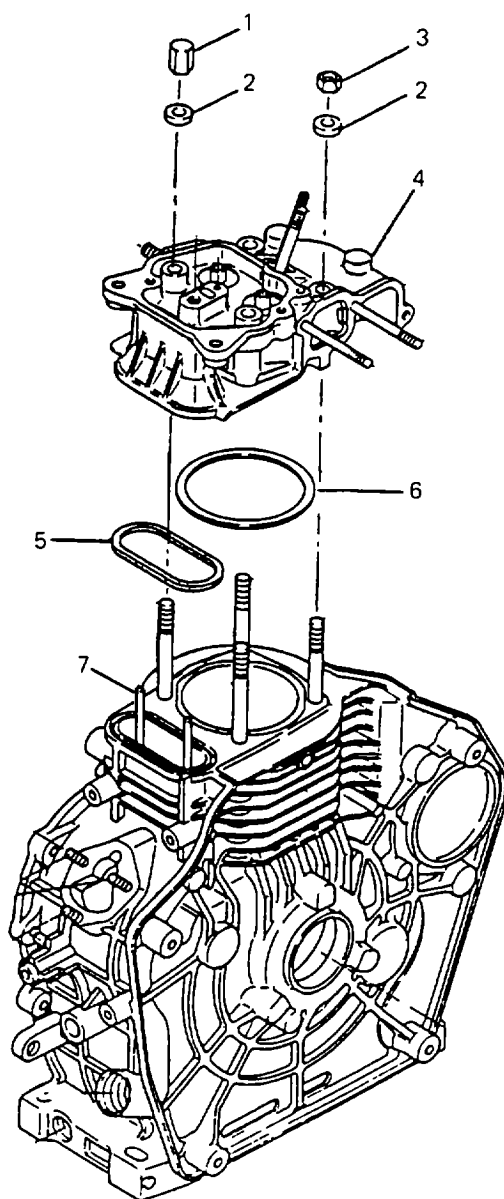
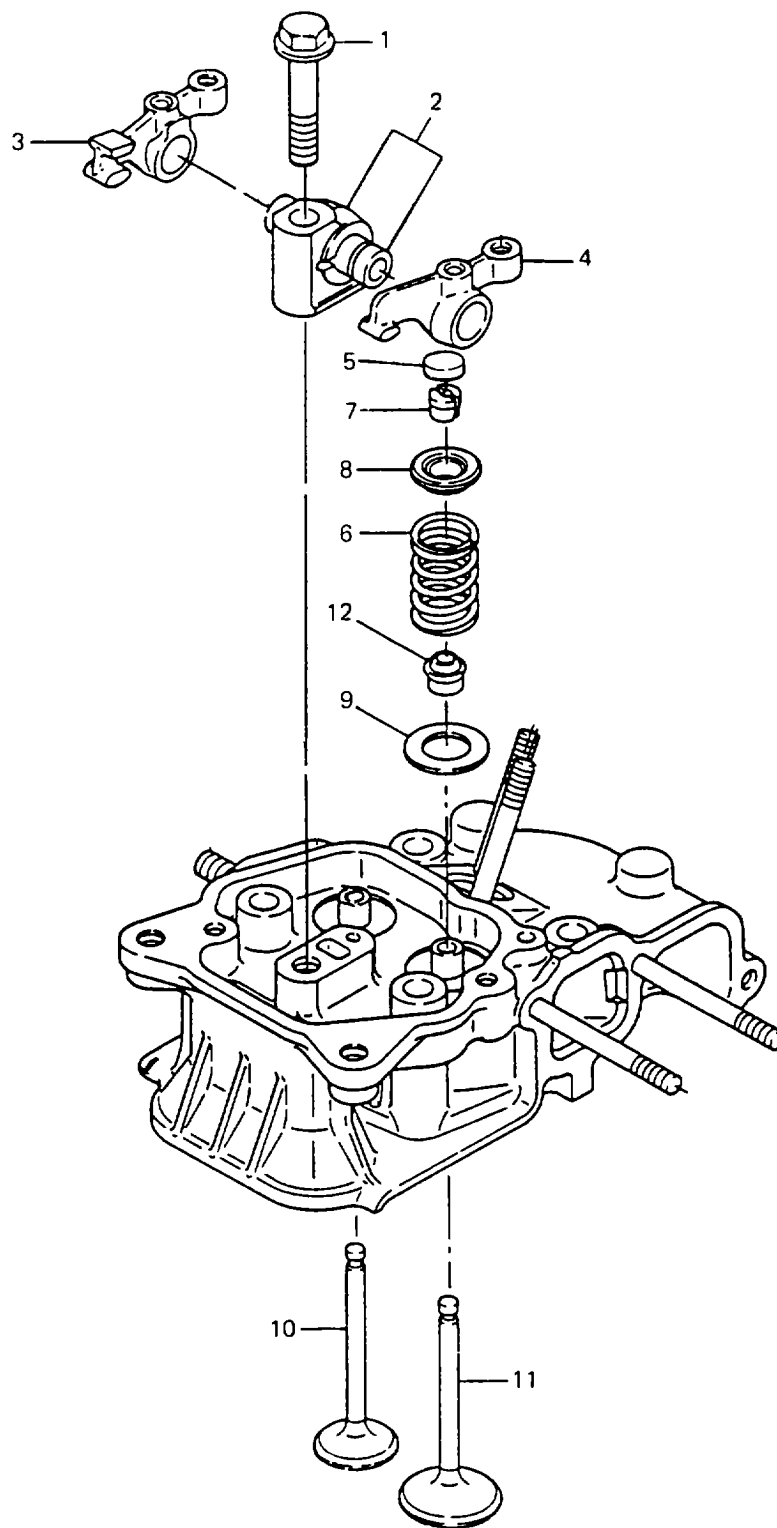

Figure 6-1. Removing Cylinder Head
Figure 6-2. Cylinder Head Assembly
- a. Refer to Figure 6-1. Remove two cap nuts (1) and washers (2) from cylinder head studs.
- b. Remove two cylinder head nuts (3) and cylinder head washers (2) from cylinder head studs.
- c. Remove cylinder head assembly (4) by lifting straight up off the four cylinder head studs
- d. Remove and discard push rod O-ring (5) and cylinder head gasket (6)
- e. Remove push rods (7).
- f. Refer to Figure 6-2. Remove rocker arm support bolt (1).
- g. Remove rocker arm support (2) with intake and exhaust valve rocker arms (3 and 4) attached.
- h. Remove valve stem caps (5).
- i. Compress valve spring (6), and remove retainer keeper (7) and retainer (8) from top of valve spring (6).
- j. Remove valve spring (6).
- k. Remove valve spring washer (9).
- m. Remove valve seals (12) from cylinder head and discard.
- a. Refer to Figure 6-2. Insert new valve stem seals (12) onto valve guide.
- c. Install valve spring washer (9).
- d. Install valve springs (6).
- e. Compress valve spring (6) and install retainer (8) and retainer keeper (7).
- f. Refer to Figure 6-1. Place new cylinder head gasket (6) and push rod O-ring (5) onto cylinder block.
- g. Install cylinder head (4) onto four studs protruding from cylinder block.
- i. Secure cylinder head to cylinder block using two cap nuts (3) and washers (2)
- k. Refer to Figure 6-2 Install valve stem caps (5)
- l. Install rocker arm support (2) with intake and exhaust valve rocker arms attached
- m. Tighten rocker arm support bolt (1) with torque wrench to 14-16 ft-lb (200-220 kg-cm)